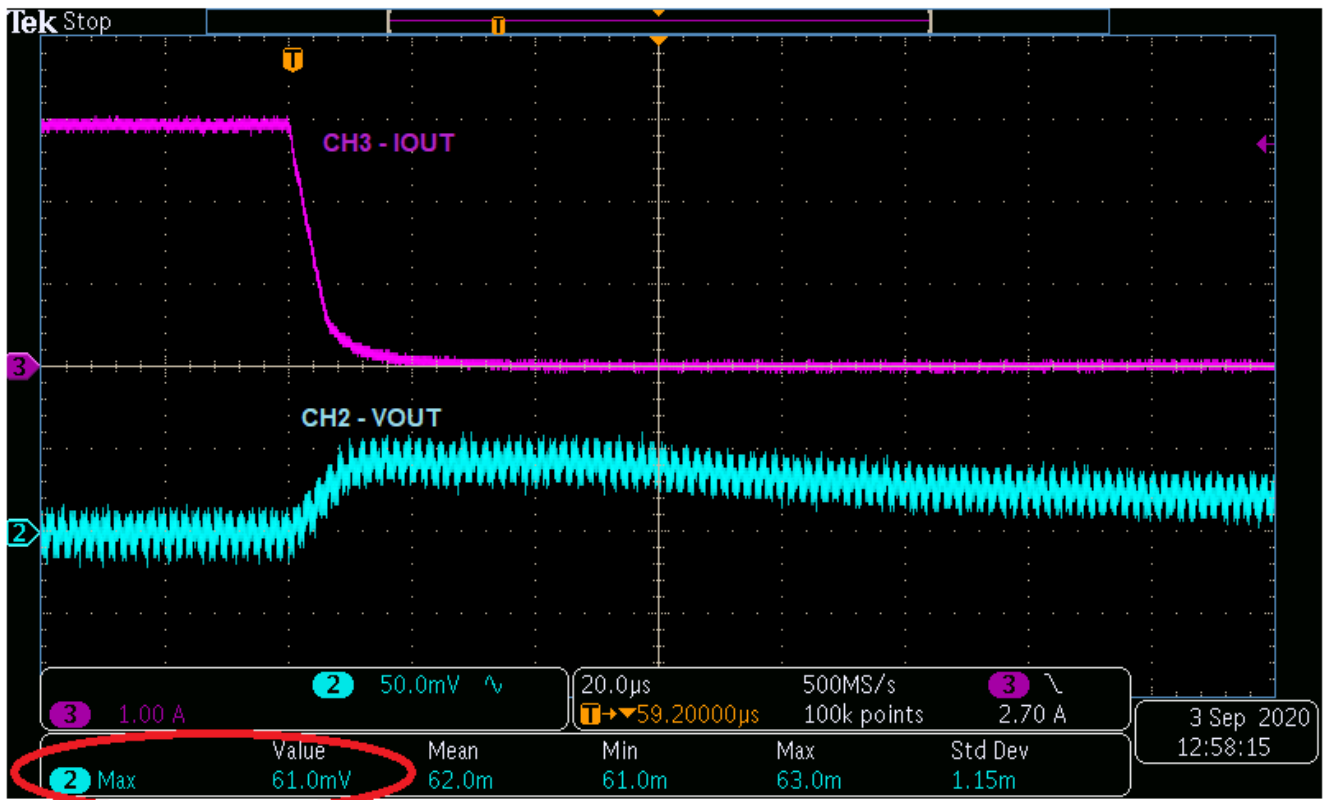

Figure 4-5. Transient Response to Load Step 3 A to 0 A at 1 A/ $\mu$ s
- Change the trigger on CH3 to falling edge to capture the transient response of VOUT to negative current step from 3 A to 0 A as shown in Figure 4-5.